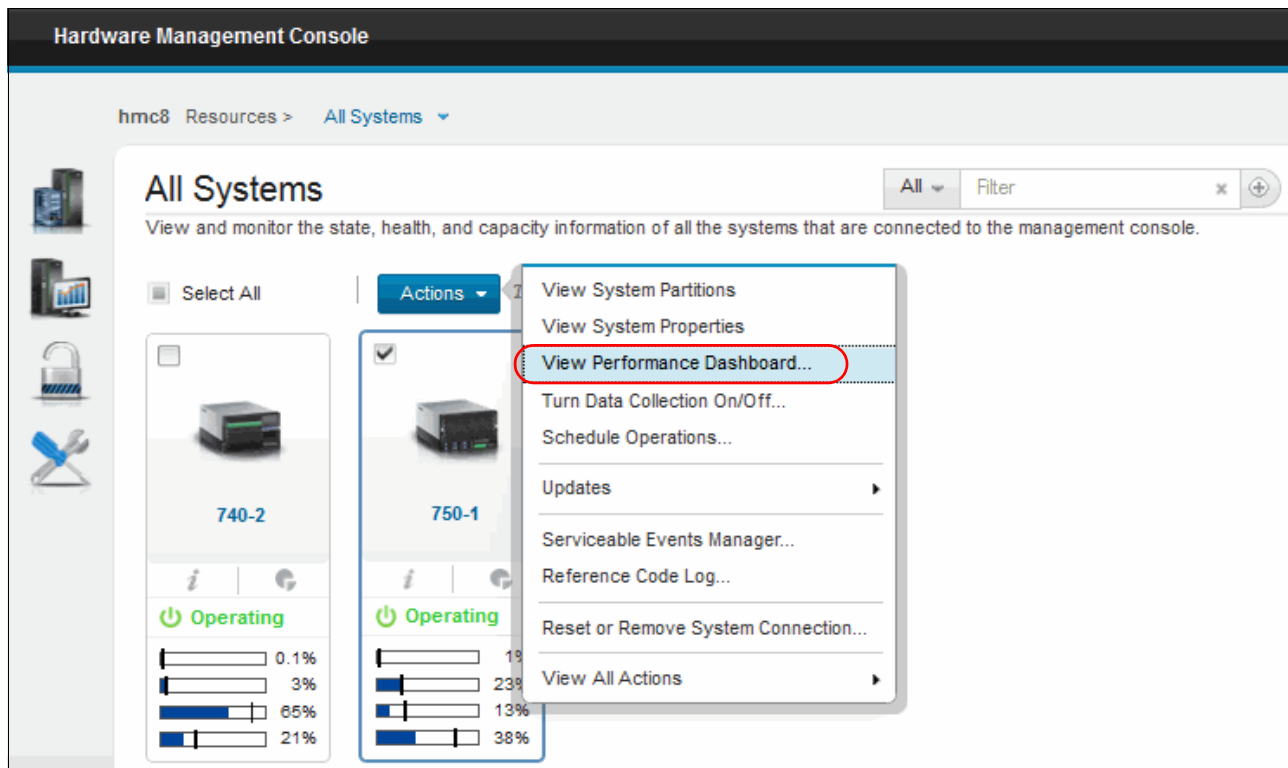

Figure 7-3 View Performance Dashboard
2. Select **Actions** → **View Performance Dashboard** (Figure 7-3).